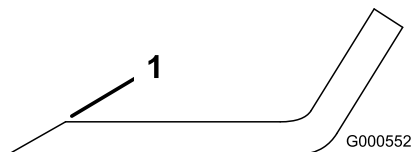

Figure 99
1. Use a file to sharpen the cutting edge at both ends of the blade (Figure 99).
Note: If the blade is not balanced, file some metal off the end of the sail area only (Figure 99).